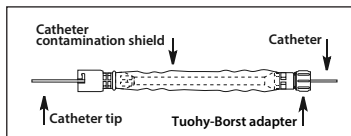

Figure 2
- If using a catheter contamination shield with Tuohy-Borst adapter (where provided), insert tip of desired catheter through Tuohy-Borst adapter end of catheter contamination shield. Advance catheter through tubing and hub at other end (refer to Figure 2).